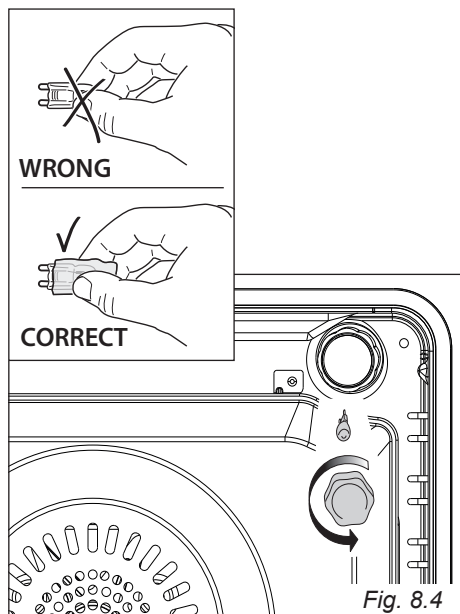

Fig. 8.4
- Remove the protective cover (fig. 8.4 - 8.5).